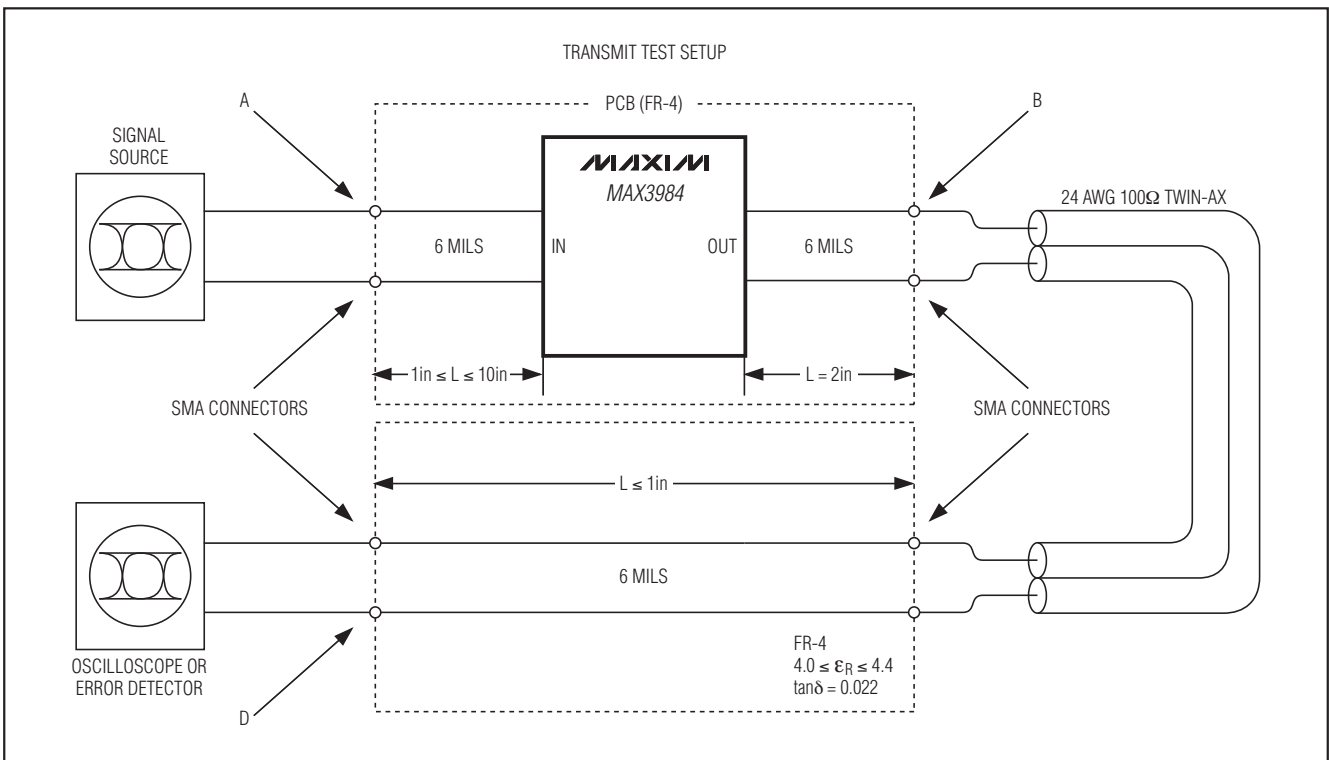

図2. 伝送試験装置(A、B、およびDの各点はACパラメータの試験条件の参照記号。確定的ジッタとアイダイアグラムは点Dで測定)
Note 9: Input range selection is IN_LEV = logic-high for FR-4 input equalization. Cables are unequalized, Amphenol Spectra-Strip (160-2499-997) 24 AWG or equivalent. Residual deterministic jitter is the difference between the source jitter at point A and the load jitter point D in Figure 2. The deterministic jitter (DJ) at the output of the transmission line must be from media induced loss and not from clock source modulation. DJ is measured at point D of Figure 2.